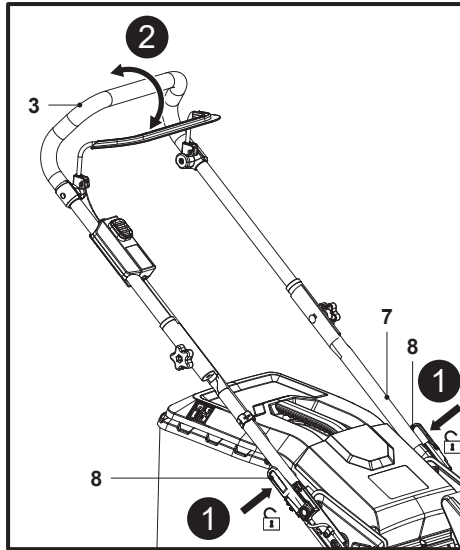

Fig. 10
1. Squeeze and disengage the two lock levers (8) on both sides of the lower handle bar (7) (Fig.10, step 1).
2. Hold the two lock levers (8) in position, then grasp the grip handle (3) and swing the handle assembly gently (Fig. 10, step 2) until the lock pin (8a) of the lock lever (8) automatically engages in one of the other two holes (9a) of the handle support (9).